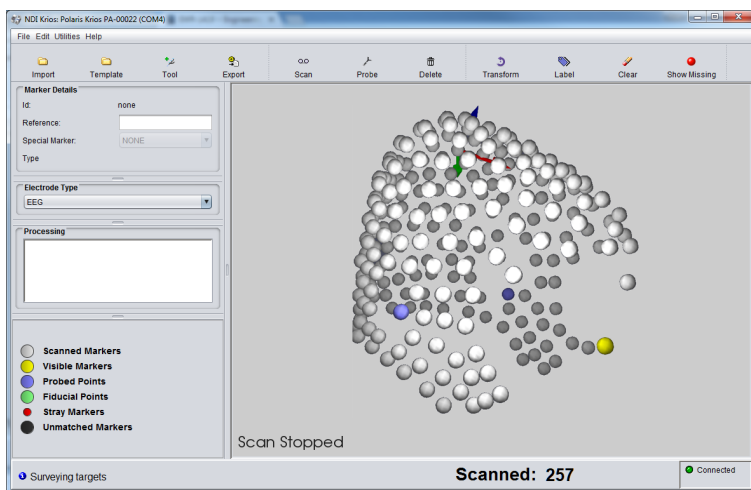

Figure 3-7 Transform - In Progress
- Select individual markers as required with the left mouse button and designate them as special markers (fiducial points) from the **Special Marker** drop-down list. The selected marker will change to green. (see Figure 3-7 for an example of a Transform in progress.)